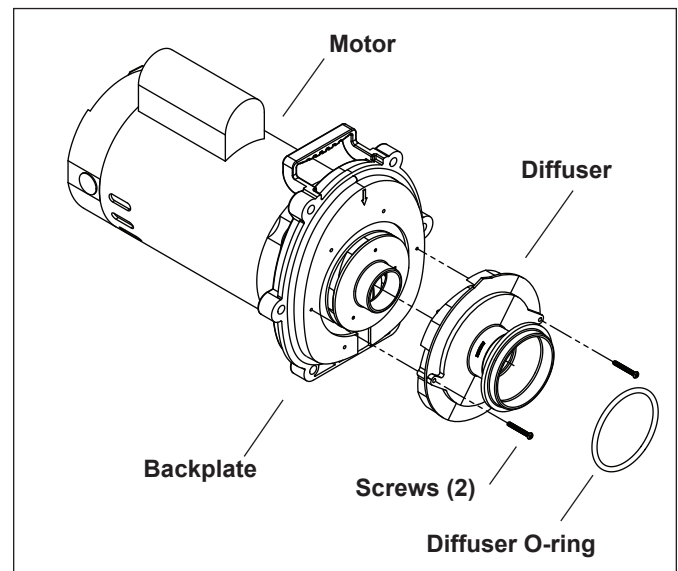

Figure 8. Remove the Diffuser
5. Using a No. 1 Phillips screwdriver, remove the two (2) screws holding the diffuser. (The diffuser is the cover over the impeller). Then remove the diffuser. (See Figure 8.)